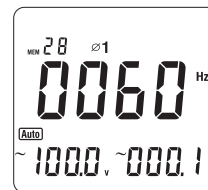

Figure 26
4. When measuring 3 phase 4 wires: (see figure 26, 27, 28)
- Press **SELECT** to choose the first phase $\varnothing 1$, see figure 26.